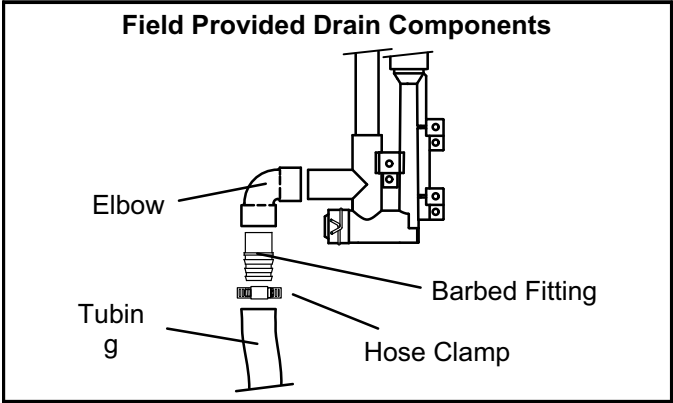

FIGURE 46
**NOTE** - Appropriately sized tubing and barbed fitting may be used for condensate drain. Attach to the drain on the trap using a hose clamp. See figure 46.